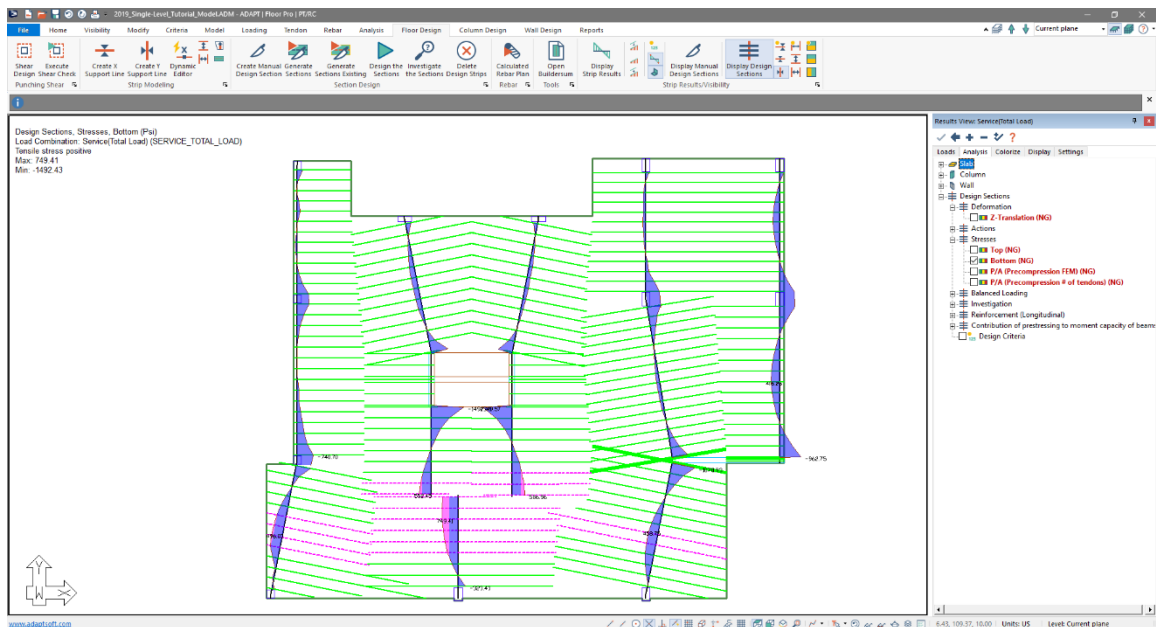

Figure 8-54
- Scroll the tree and find *Design Sections* → *Stresses* → *Bottom* and check the box to the right. The user should now see on screen the design section results for the support lines in the Y-direction for bottom stresses as shown in **Figure 8-54**.